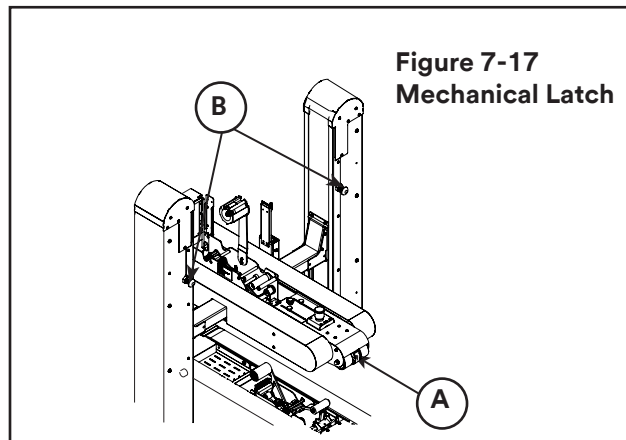

Figure 7-17
9. Mechanical Latch, Upper Drive Assembly (Figure 7-17)